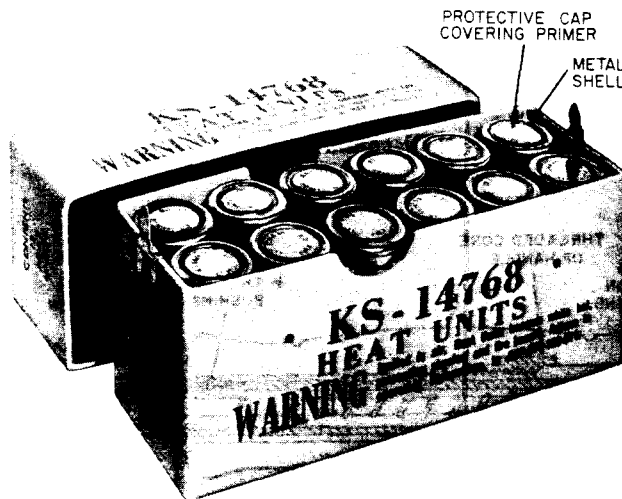

Fig. 4—KS-14768 Heat Units
5.01 A carton of twelve KS-14768 Heat Units is shown in Fig. 4. A heat unit consists of a cylindrical metal shell with a primer at one end. The primer is covered by a protective cap which is readily indented by the firing pin mechanism of the copper. The chemical mixture, sealed in the shell, is ignited when the primer is actuated by the firing pin. As the chemical mixture burns